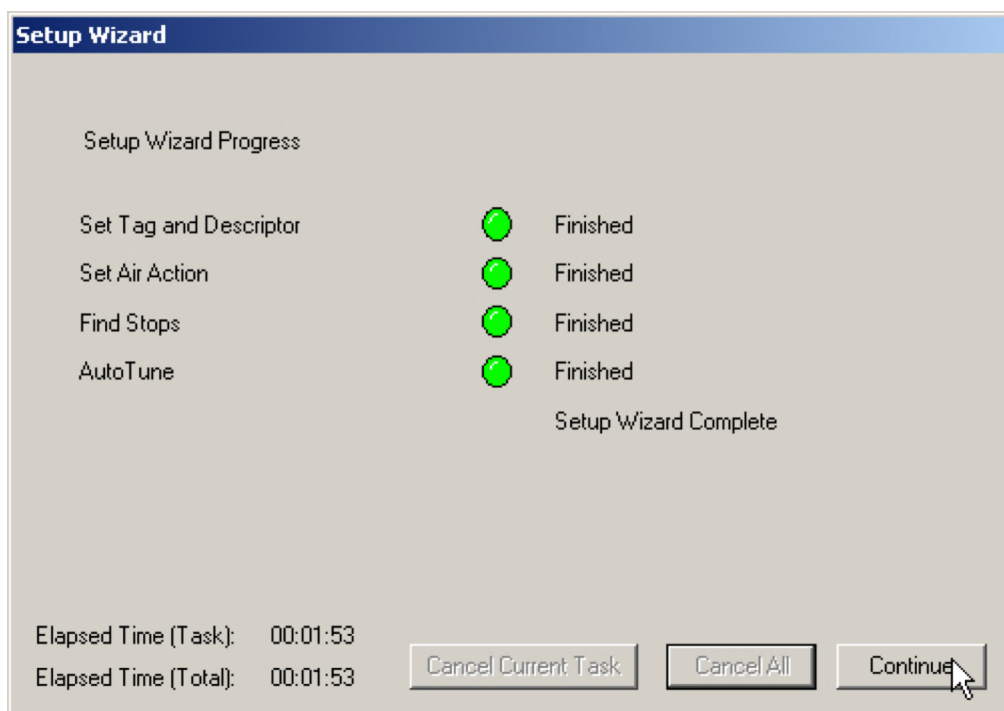

Figure 122 - Setup Wizard Complete
- Click **Continue** and the Configure screen appears (*Figure 122*).